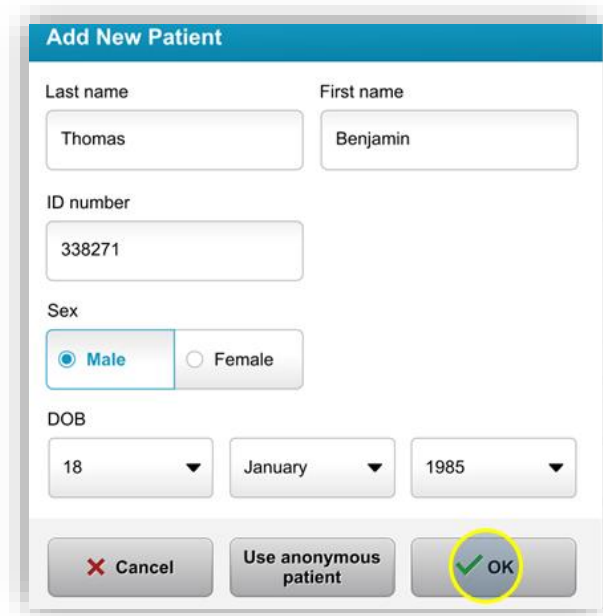

Figure 3-3. Enter Patient Information
- To begin adding a new patient, select “Add new patient,” and the pop-up window shown in Figure 3-3 will appear.